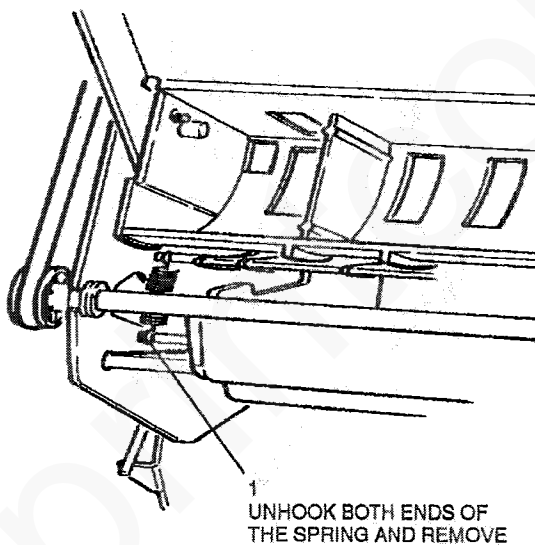

Figure 1. Divert gate spring removal
5. (Figure 1) Remove the divert gate spring.